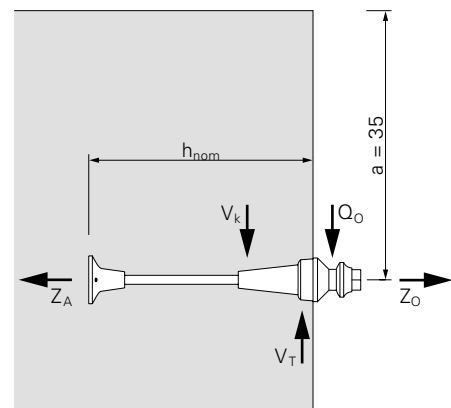

Fig. C1.21
- The maximum tensile force Z_0 is diverted into the concrete via the pressure on the threaded anchor plate Z_A . (Fig. C1.21)